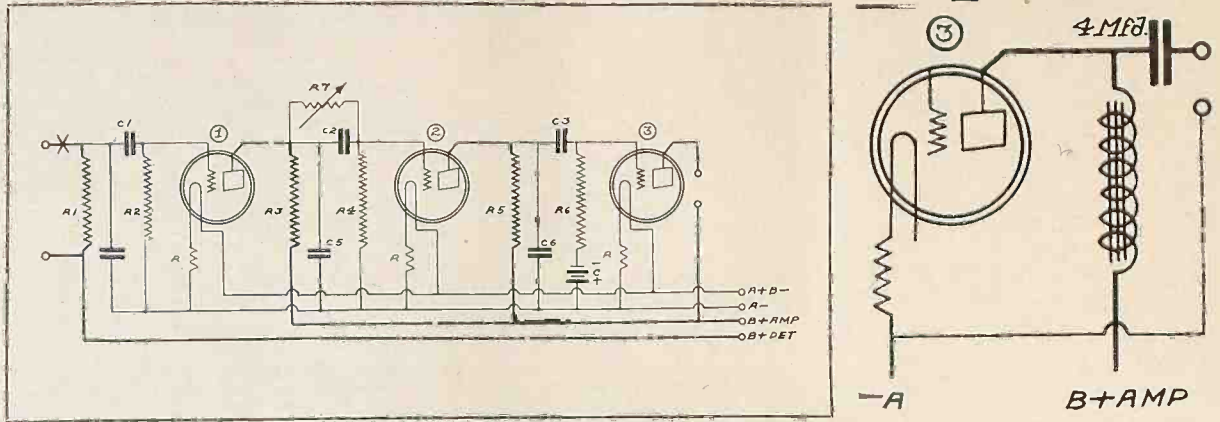

FIG. 1
Fig. 1 shows the correct design of a 3-stage resistance coupled audio outfit. At left is the amplifier complete, while at right is shown the final tube, with speaker connected indirectly. The direct coupled method, as from tube 3 at left, is all right
No rheostats are necessary in the audio circuit of this hookup. In fact it is hard to imagine a need for rheostats in any audio hookup. The tubes should be heated to their normal temperature, this being done by supplying the recommended voltage as given in the pamphlet enclosed in the tube box, and likewise printed on the box itself in most instances. R in Fig. 1 represents suitable Amperites.
The milliammeter in the plate circuit at left is to be read into Fig. 1, at tube 3, in the complete amplifier. If the choke coil-condenser coupling method is used, then the meter should be placed as shown above at right. Why the meter is not an infallible distortion test is explained in the text.
The choke coil would be inserted at the point (X) in Fig. 1. If a choke coil is used the bypass condenser need not be included, as the object it is intended to serve is better achieved by the choke coil.
Do not confuse this type of choke, which is a radio frequency model, with the audio choke, of entirely different theory, purpose and construction, as shown at right in Fig. 1.